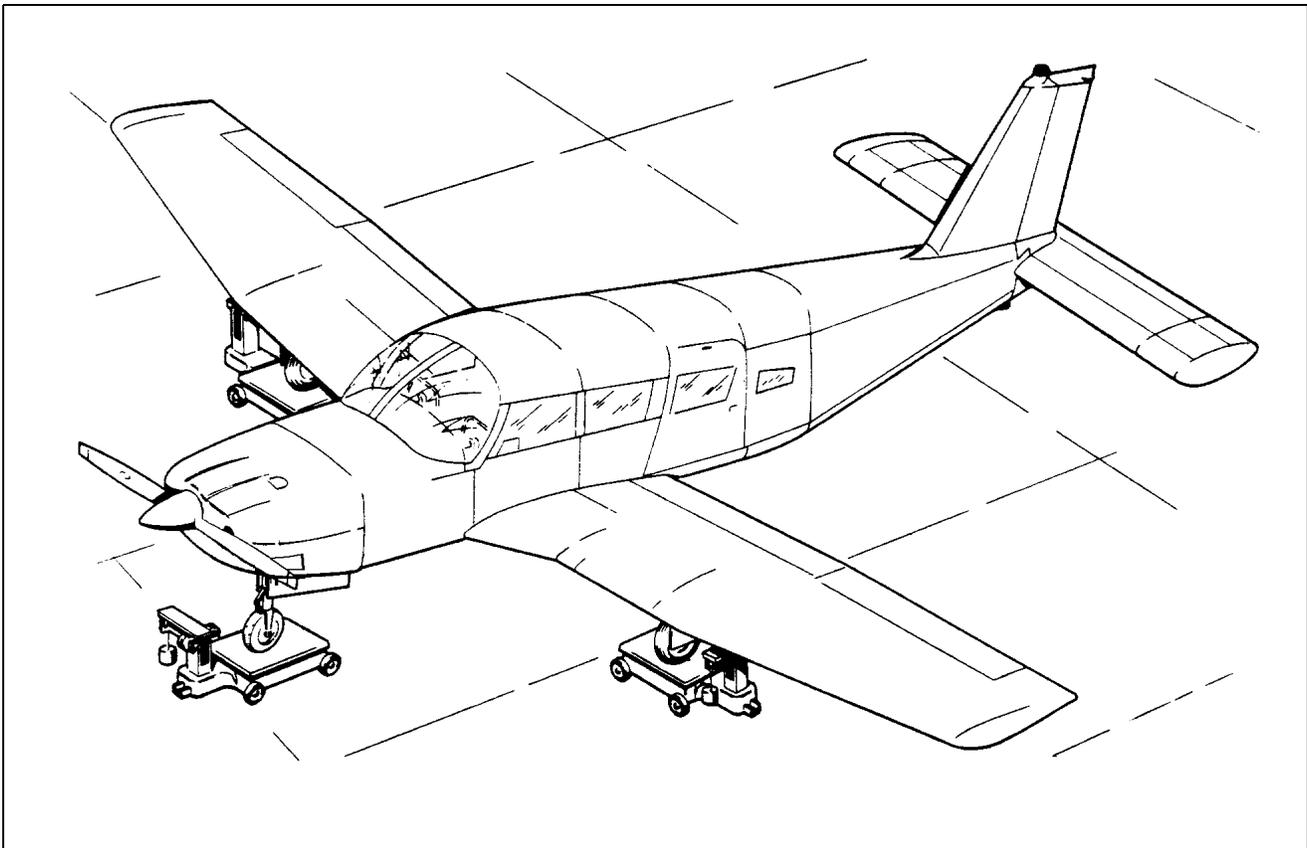

Figure 8-2. Weighing
**WEIGHING. (REFER TO FIGURE 8-2.)**